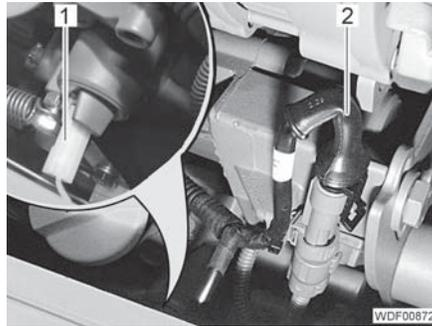

Fig. 14 Electrical connectors (rear)
- Remove the connector (Fig. 14,2) for the cutoff solenoid.
- Remove the connector (Fig. 14,1) from the negative contact pin.